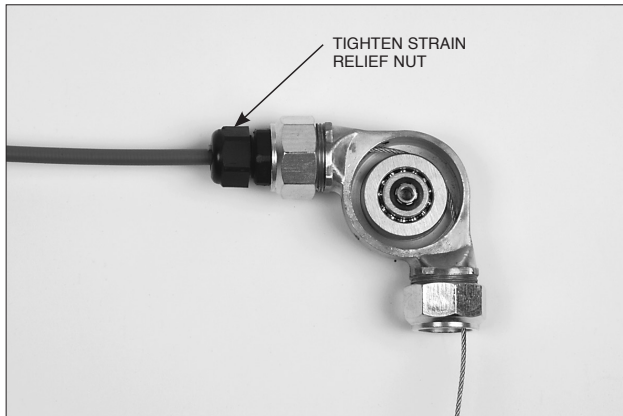

FIGURE 4-56
8. Tighten the strain relief nut onto the strain relief. See Figure 4-56.